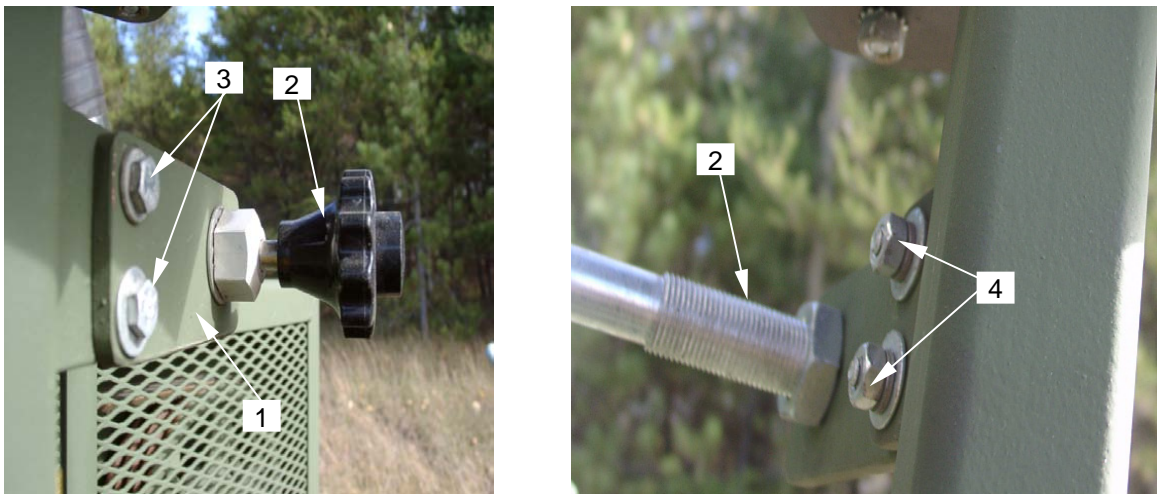

Figure 4. Installing Throttle Bracket
6. Position the throttle mounting plate (**figure 4, item 1**) with throttle attached (**figure 4, item 2**) onto the control post. Install two hex bolts (**figure 4, item 3**), nuts, flat and lock washers (**figure 4, item 4**) to secure throttle to post.